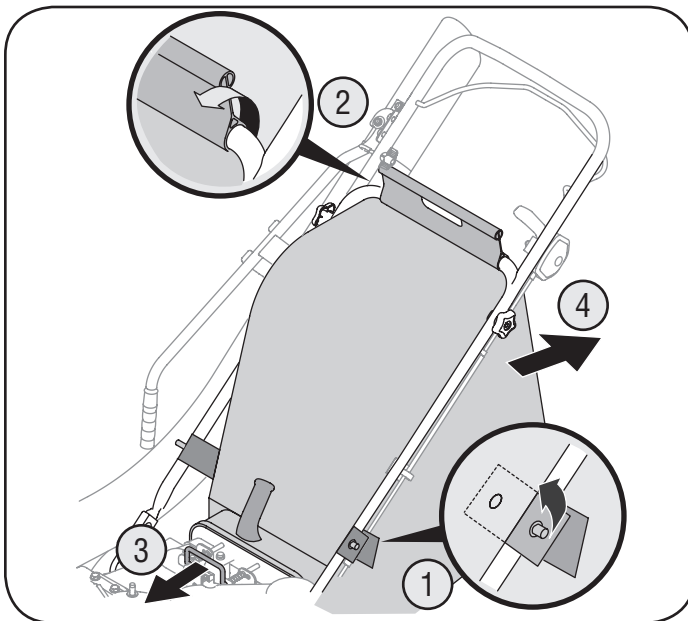

Figure 12
2. Unsnap bag clip from the top of lower handle. See Figure 12.